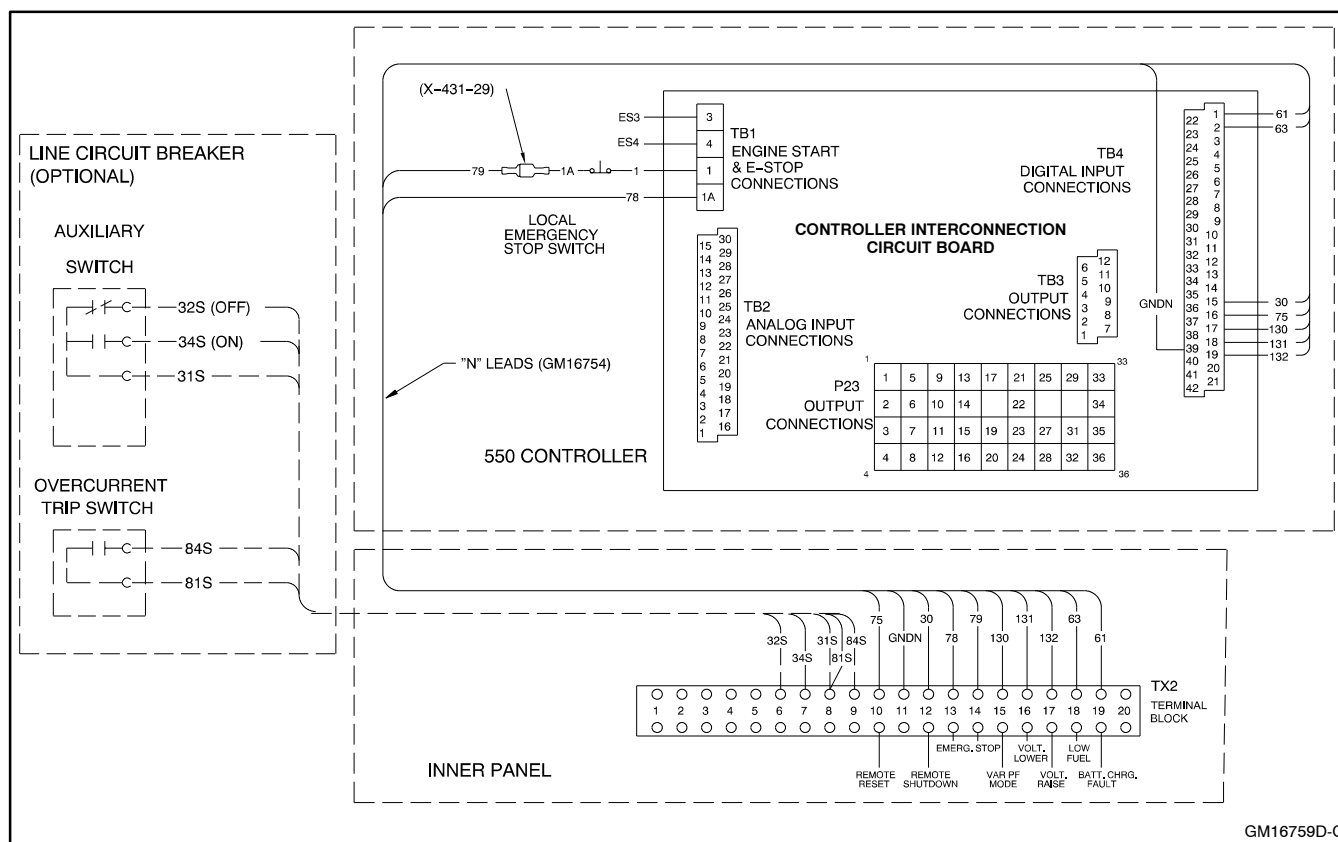

Figure 6 Attaching Wiring Connection Harness to TX2 Terminal Block
- 4.4 Disconnect lead 1A from TB1-1A. Cut the existing terminal from lead 1A and attach the 1/4 in. push-on terminal (X-431-29) to lead 1A. See Figure 6.